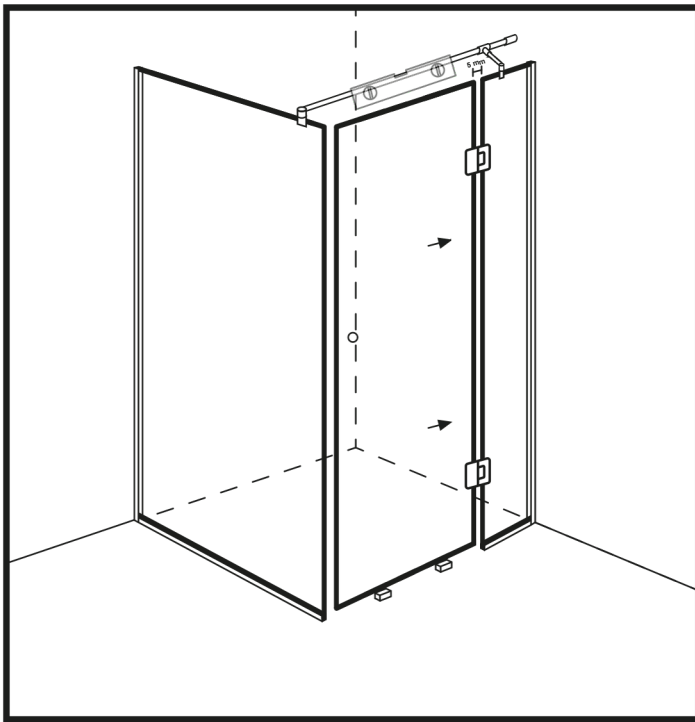

Figure 12
34. Place wooden blocks on the floor, maximum thickness 1 cm, on which you can support the door glass panel. (Figure 12)